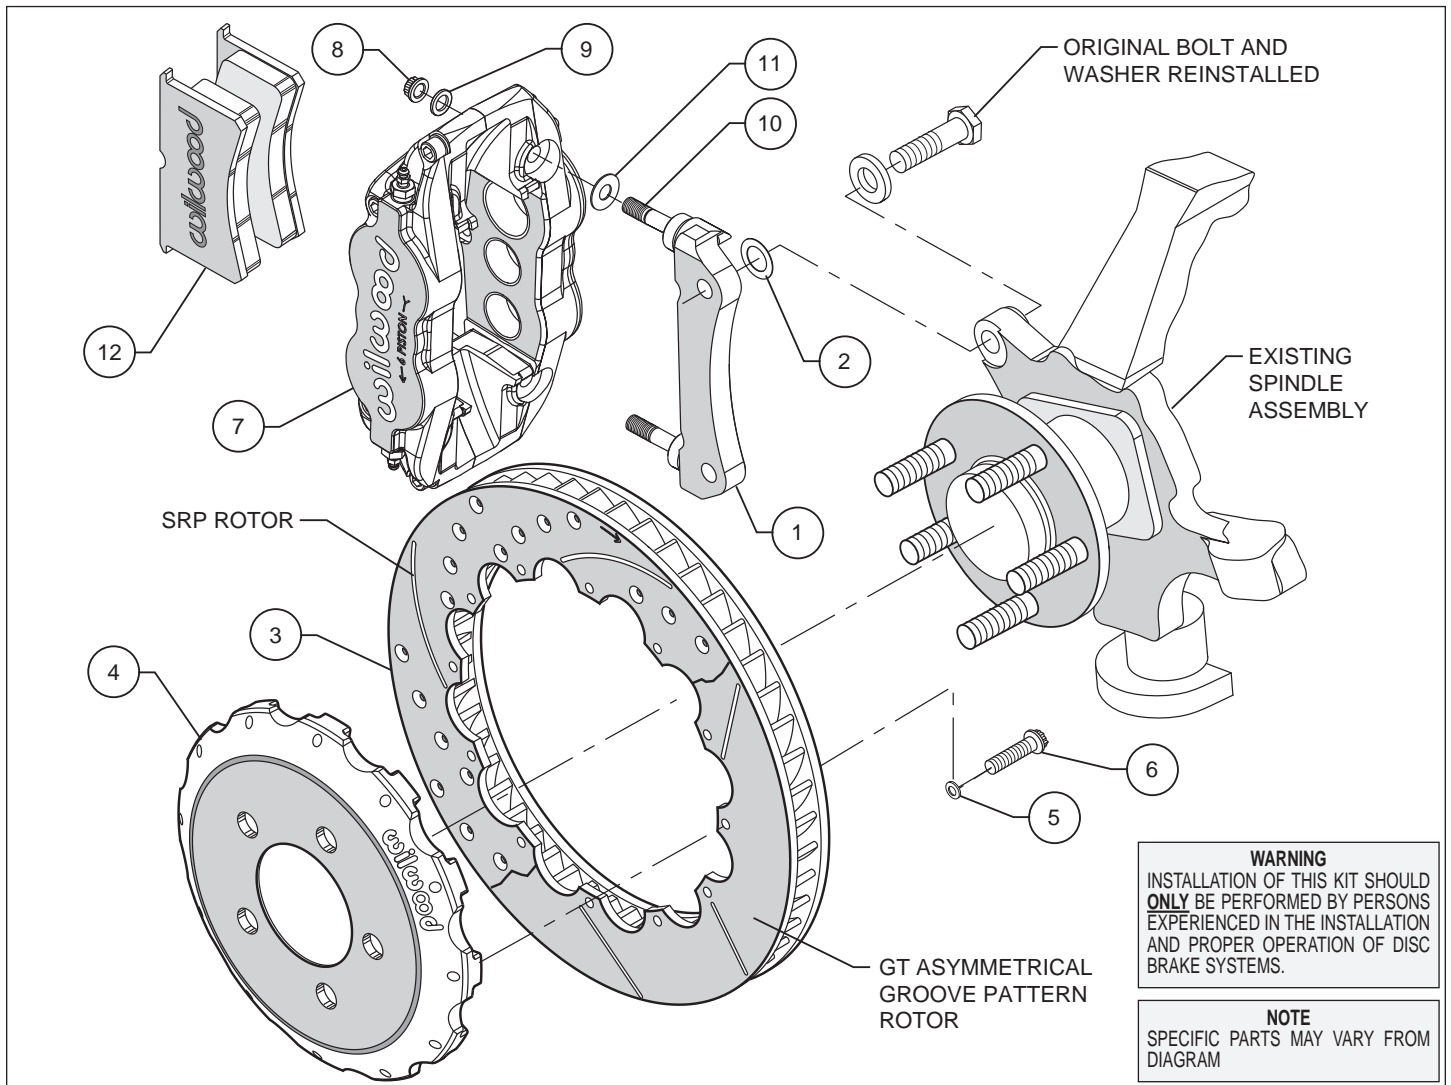
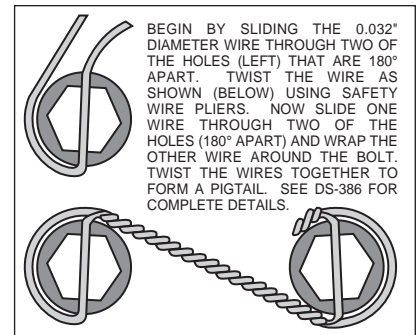

Figure 1. Typical Installation Configuration
Figure 3. Safety Wire Diagram
- Assemble the rotor (3) to the hat (4) with the bolts (6) and washers (5) as indicated in the configuration pictured in Figure 1. Using an alternating sequence, apply red *Loctite*® 271 to the threads and torque bolts to 155 **in-lb**. For an added measure of security, the bolts may be safety wired using standard 0.032 inch diameter stainless steel safety wire as shown in Figure 3. Please refer to Wilwood's data sheet DS-386 for complete safety wire installation instructions.